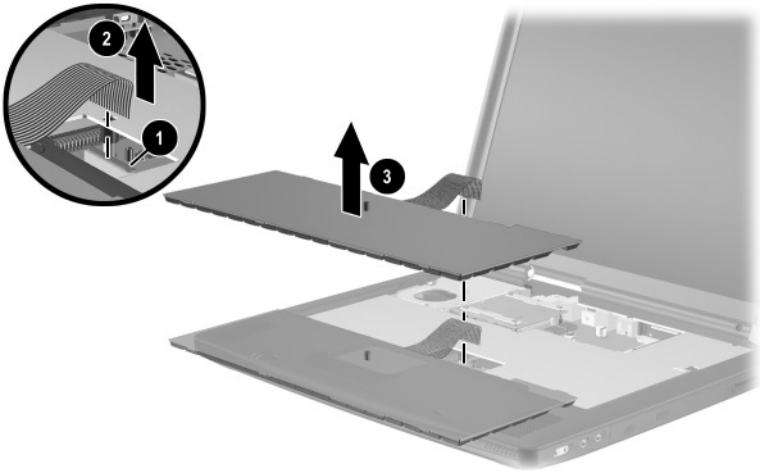

Figure 5-14. Removing the Keyboard
9. Release the ZIF connector ❶ to which the keyboard cable is attached and disconnect the keyboard cable ❷ from the system board (Figure 5-14).
10. Remove the keyboard ❸.